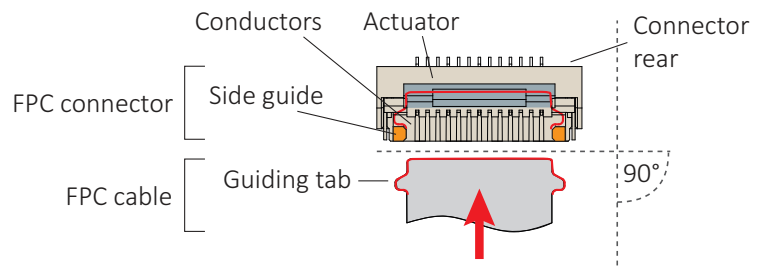
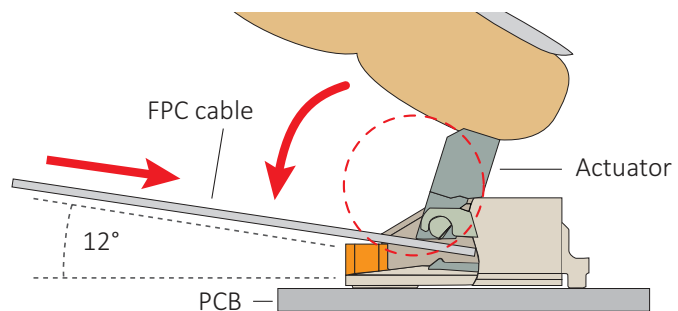

Figure 11: FPC cable and FPC connector
Figure 12: Engaging the FPC cable in the FPC connector
2. **Ensuring proper cable direction between host and camera**, take the FPC cable with conductors facing the FPC connector conductors (see Figure 11).
At a horizontal angle of 90° to the connector's rear (see Figure 11) and at a vertical angle of 12° to the PCB (see Figure 12), slowly insert the FPC cable into the actuator...
4. ...until cable guiding tabs are caught between connector rear and side guides (see Figure 11). Pull the cable slightly to ensure guiding tabs are properly engaged.
5. Holding the FPC cable in position, flap down the actuator to closed position (see Figure 12).